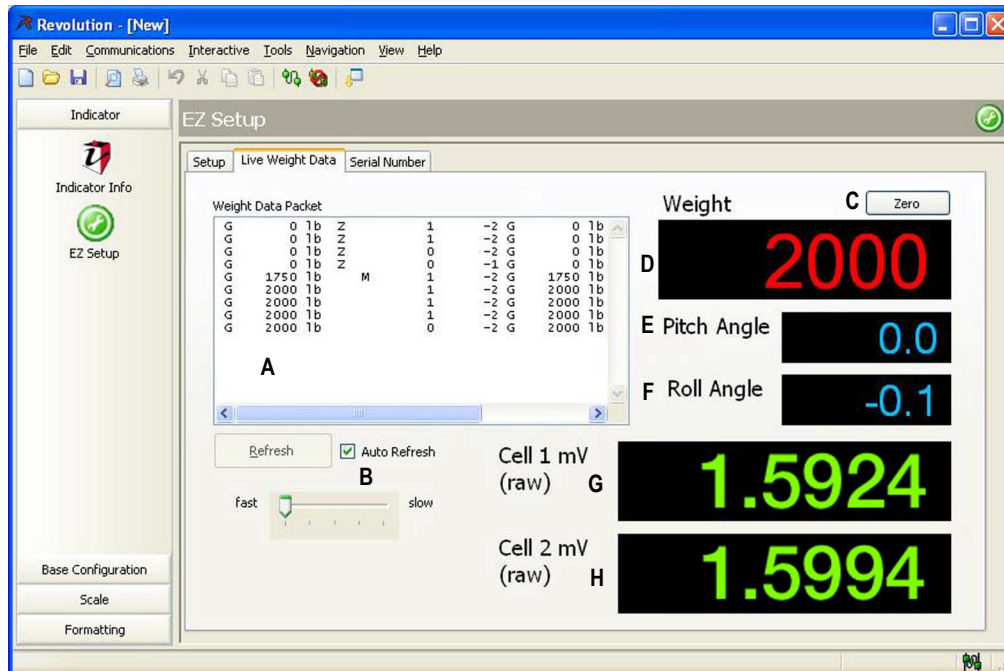

Figure 4-7. Revolution Live Weight Data screen.
1. Select the *Live Weight Data* tab (Figure 4-7).
NOTE: *Weight data packet screen shows output format of CLS-M3. Other displays include weight, pitch angle, roll angle, cell 1 & 2mV. (Figure 4-7). This is the information that will be sent to the customer supplied hand-held device when attached through WPAN.*